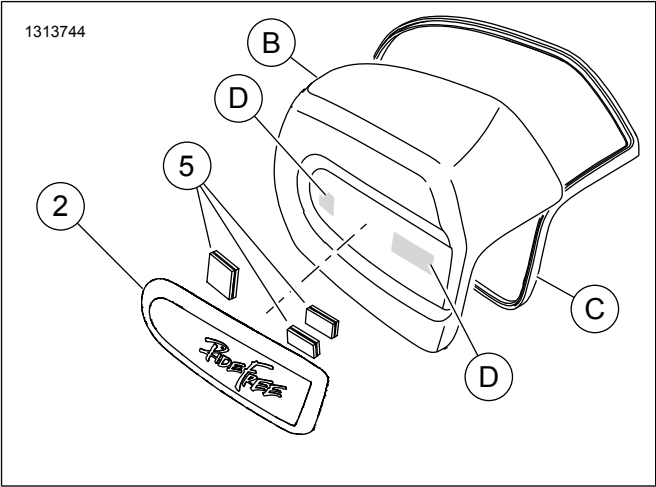

Figure 4. Service Parts, RideFree Air Cleaner Trim Kit
1. See Figure 4. Leave dual lock installed on trim.
3. Press firmly in fastener area (D) to secure. Hold for 30 seconds.